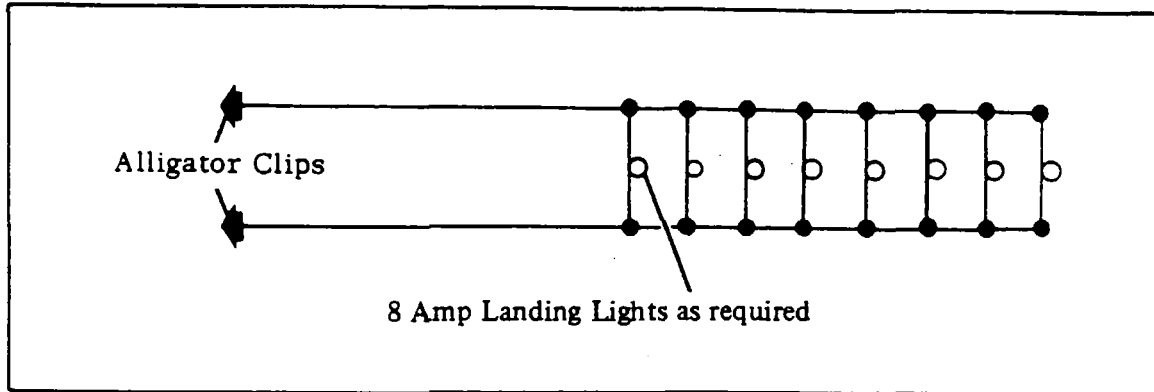

Figure 11-1. Lamp-Bank Load
- d. Additional loads may be simulated by adding landing lights (8.0 amps per light) from the bus bar to the aircraft ground. (Refer to Figure 11-1.)